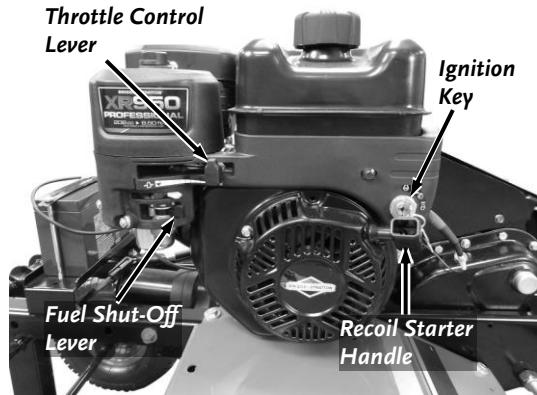

Figure 12
6. Move the Fuel Shut-Off Lever to the right “ON” position (**Figure 12**).
2. When starting a cold Engine, push the Choke Control Lever to the left so it is in the CHOKE  position and the push the Throttle Control Lever to the left so it is in the RUN  position (**Figure 12**).